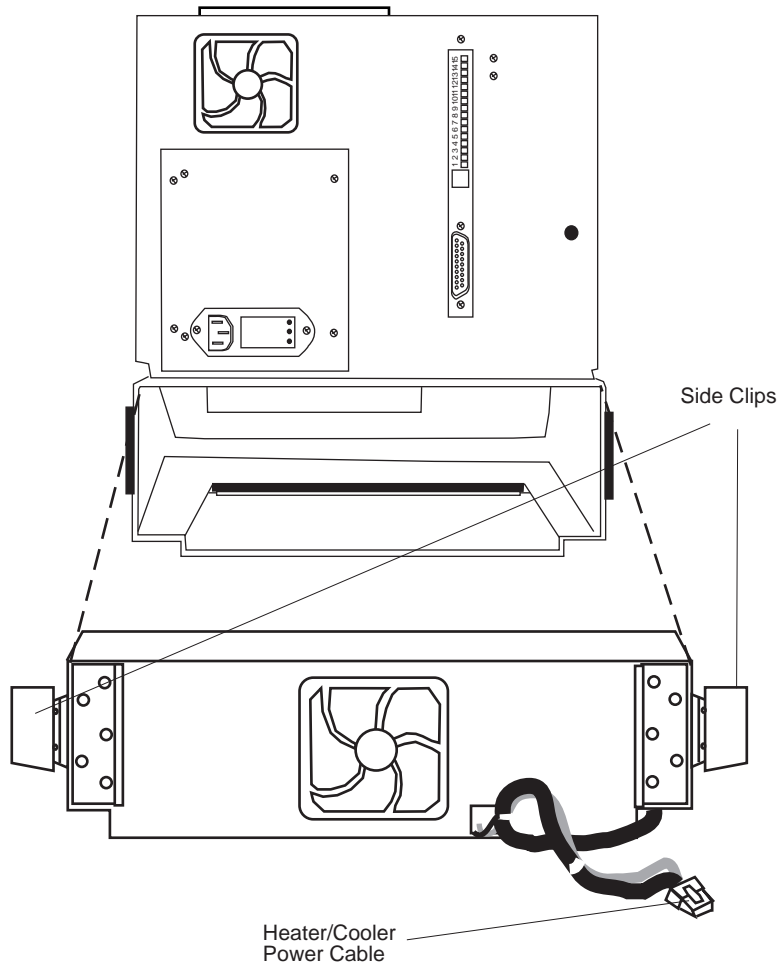

Figure 2-12 Installing Heater/Cooler
4. Clamp the heater/cooler to the autosampler using the two side clips (Figure 2-12).